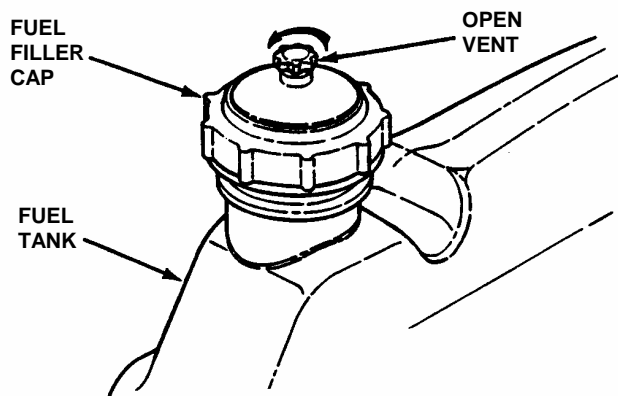

FIGURE 2.2
2.1.7. Add fuel to tank after pushing the Rear Engine Rider outside where fumes can dissipate. Make sure fuel filler cap is tight and vent is open after refueling. Refer to engine owner's manual for fuel specifications. See Figure 2.2.
4. Open vent on fuel filler cap by turning counterclockwise. **IMPORTANT:** Failure to open vent on the fuel filler cap can cause engine to stall. See Figure 2.2.
1. Move transmission shift lever to (N) Neutral position. DO NOT start engine with transmission shift lever in a drive position.
4. Open vent on fuel filler cap by turning counterclockwise. NOTE: Failure to open vent on the fuel filler cap can cause engine to stall. See Figure 2.2.